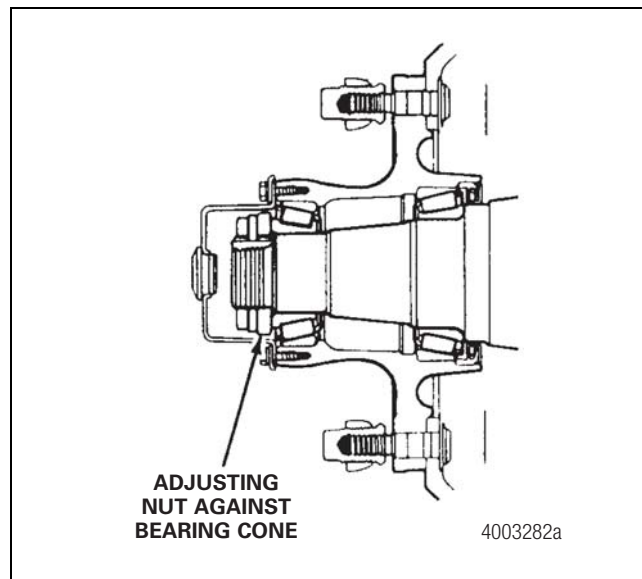

Figure 10.1
- Manual bearing adjustment is the current production standard. The goal of this procedure is to obtain a wheel bearing end play of 0.001-0.005-inch (0.025-0.127 mm). This is achieved by first tightening the adjusting nut against the bearing cone, then backing it off a prescribed amount. Figure 10.1.